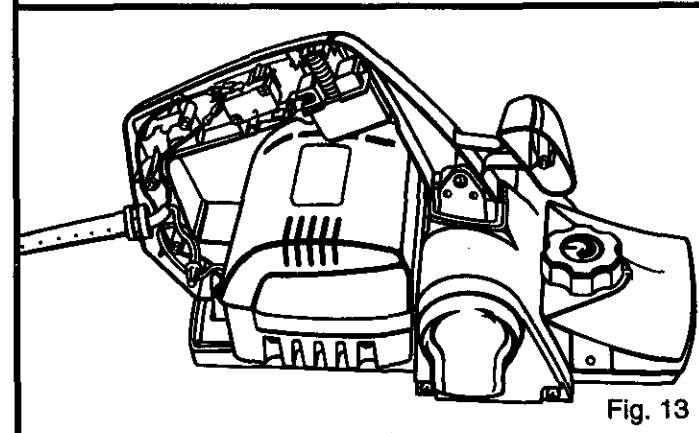

Fig. 13
3. Note the location of all wiring in the handle and where each switch lead connects to the switch terminals. Connections and wiring position must be identical when installing the new switch. See *Figure 13.*